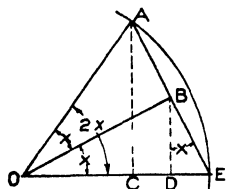

Fig. 16.
23. Draw the circular arc, radius OE as shown in Fig. 16. Bisect $\angle EOA$ by OB . Draw BD and $AC \perp$ to OE . Then $\angle EOA = 2x$, $\angle EOB = \angle BOA = \angle DBE = x$. Now $AC = 2BD$, since $AE = 2BE$ and $\triangle BOE$ and $\triangle ACE$ are similar.
4. Prove $\tan 2x = \frac{2 \tan x}{1 - \tan^2 x}$, from Fig. 16.